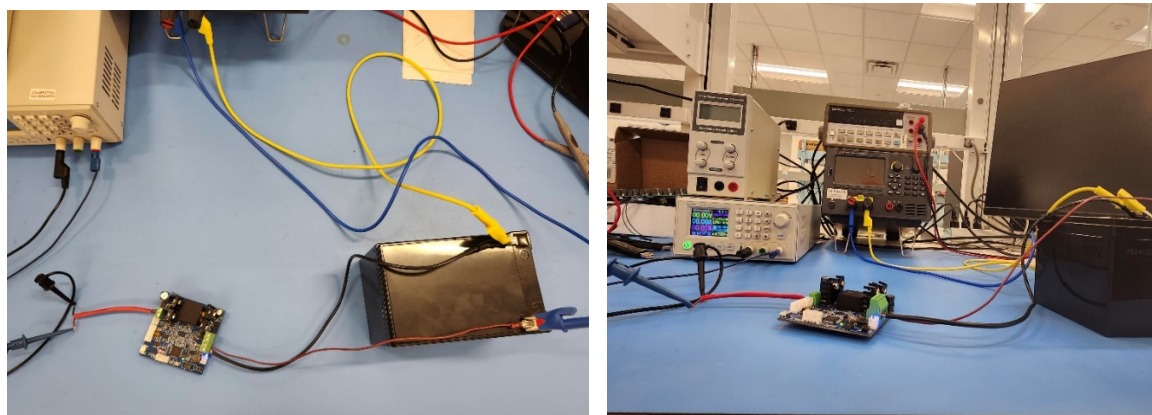

Figure 9. Connection Setup
1. Start by connecting the wires from the solar panel to the screw rising cage clamp terminals on the input of the board. The pin-1 of J2 is VIN, and pin-2 of J2 is GND (see Figure 9). The LED2 and LED3 light up.
4. Connect the battery to the output of the board by pin-3 of J3 (VBATT) and pin-4 of J3 (GND) with the screw rising cage clamp terminals (see Figure 9). The output voltage is monitored by the MCU, and the controller is enabled when the voltage is above 8.6V (Vtrck - 4) and below 12.9V (Vrecharge). After it is operational, the output voltage and current are measured to determine the appropriate charging stage so that the battery charging proceeds accordingly.